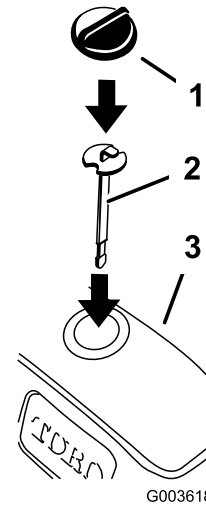

Figure 7
2. Insert the dipstick into the tank and remove it to check the hydraulic oil level (Figure 7).